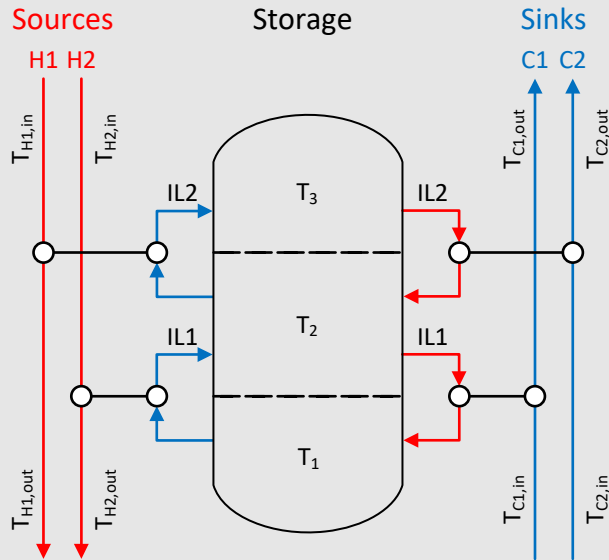

Figure 11: General stratified storage with three layers, two ILs with two sources (hot streams, H1 and H2) and sinks (cold streams, C1 and C2) each
Before we start selecting the streams for indirect HR, we would like to discuss the relevant properties of stratified storage (SS). In Figure 11, general SS with three layers is shown. Hot streams are used for loading, and cold streams for unloading. The storage medium is pumped from one layer to another via an IL and, during this process, heated or cooled in the HEX intermediate loop. The temperatures of the layers should be selected so that the process streams are brought to the desired outlet temperatures and the layer temperatures are complied with. The inlet temperature of the cold streams is limited to the bottom layer temperature, while that of the hot streams is limited to the top layer temperature. Because SS is sensitive heat storage, the difference between the layer temperatures is crucially significant for the storage capacity. If the difference between the layer temperatures can be increased by selecting